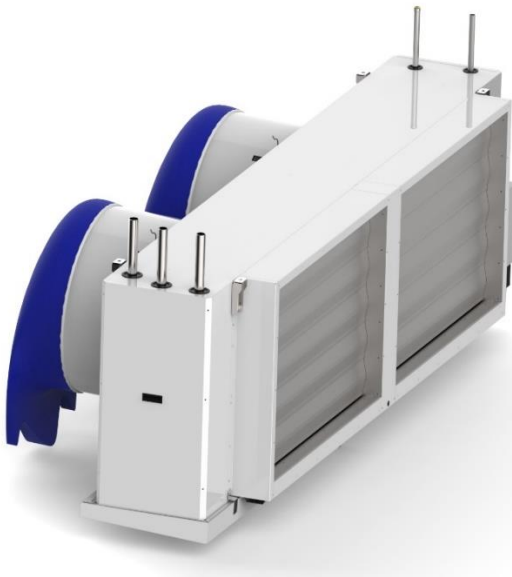

Figure 1: damper combined with Shut-up (recommended design)
- damper combined with Shut-up (Figure 1)